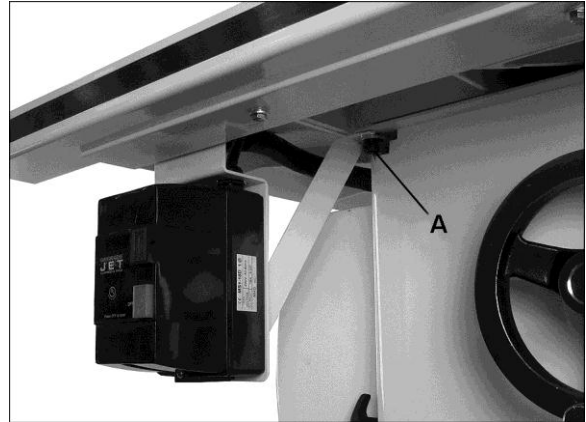

Figure 15
2. Loosen (do not remove) screw (A, Figure 15).